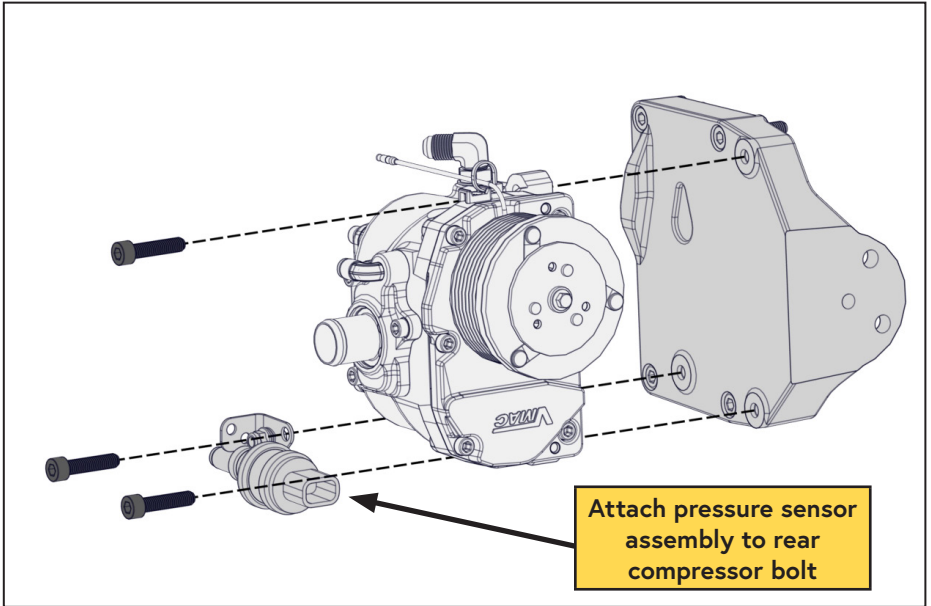

Figure 13 — Mount compressor
- Using (×3) M8 × 1.25 × 35 mm bolts, mount the compressor assembly, and pressure switch assembly (in the orientation shown) onto the main bracket (Figure 13).